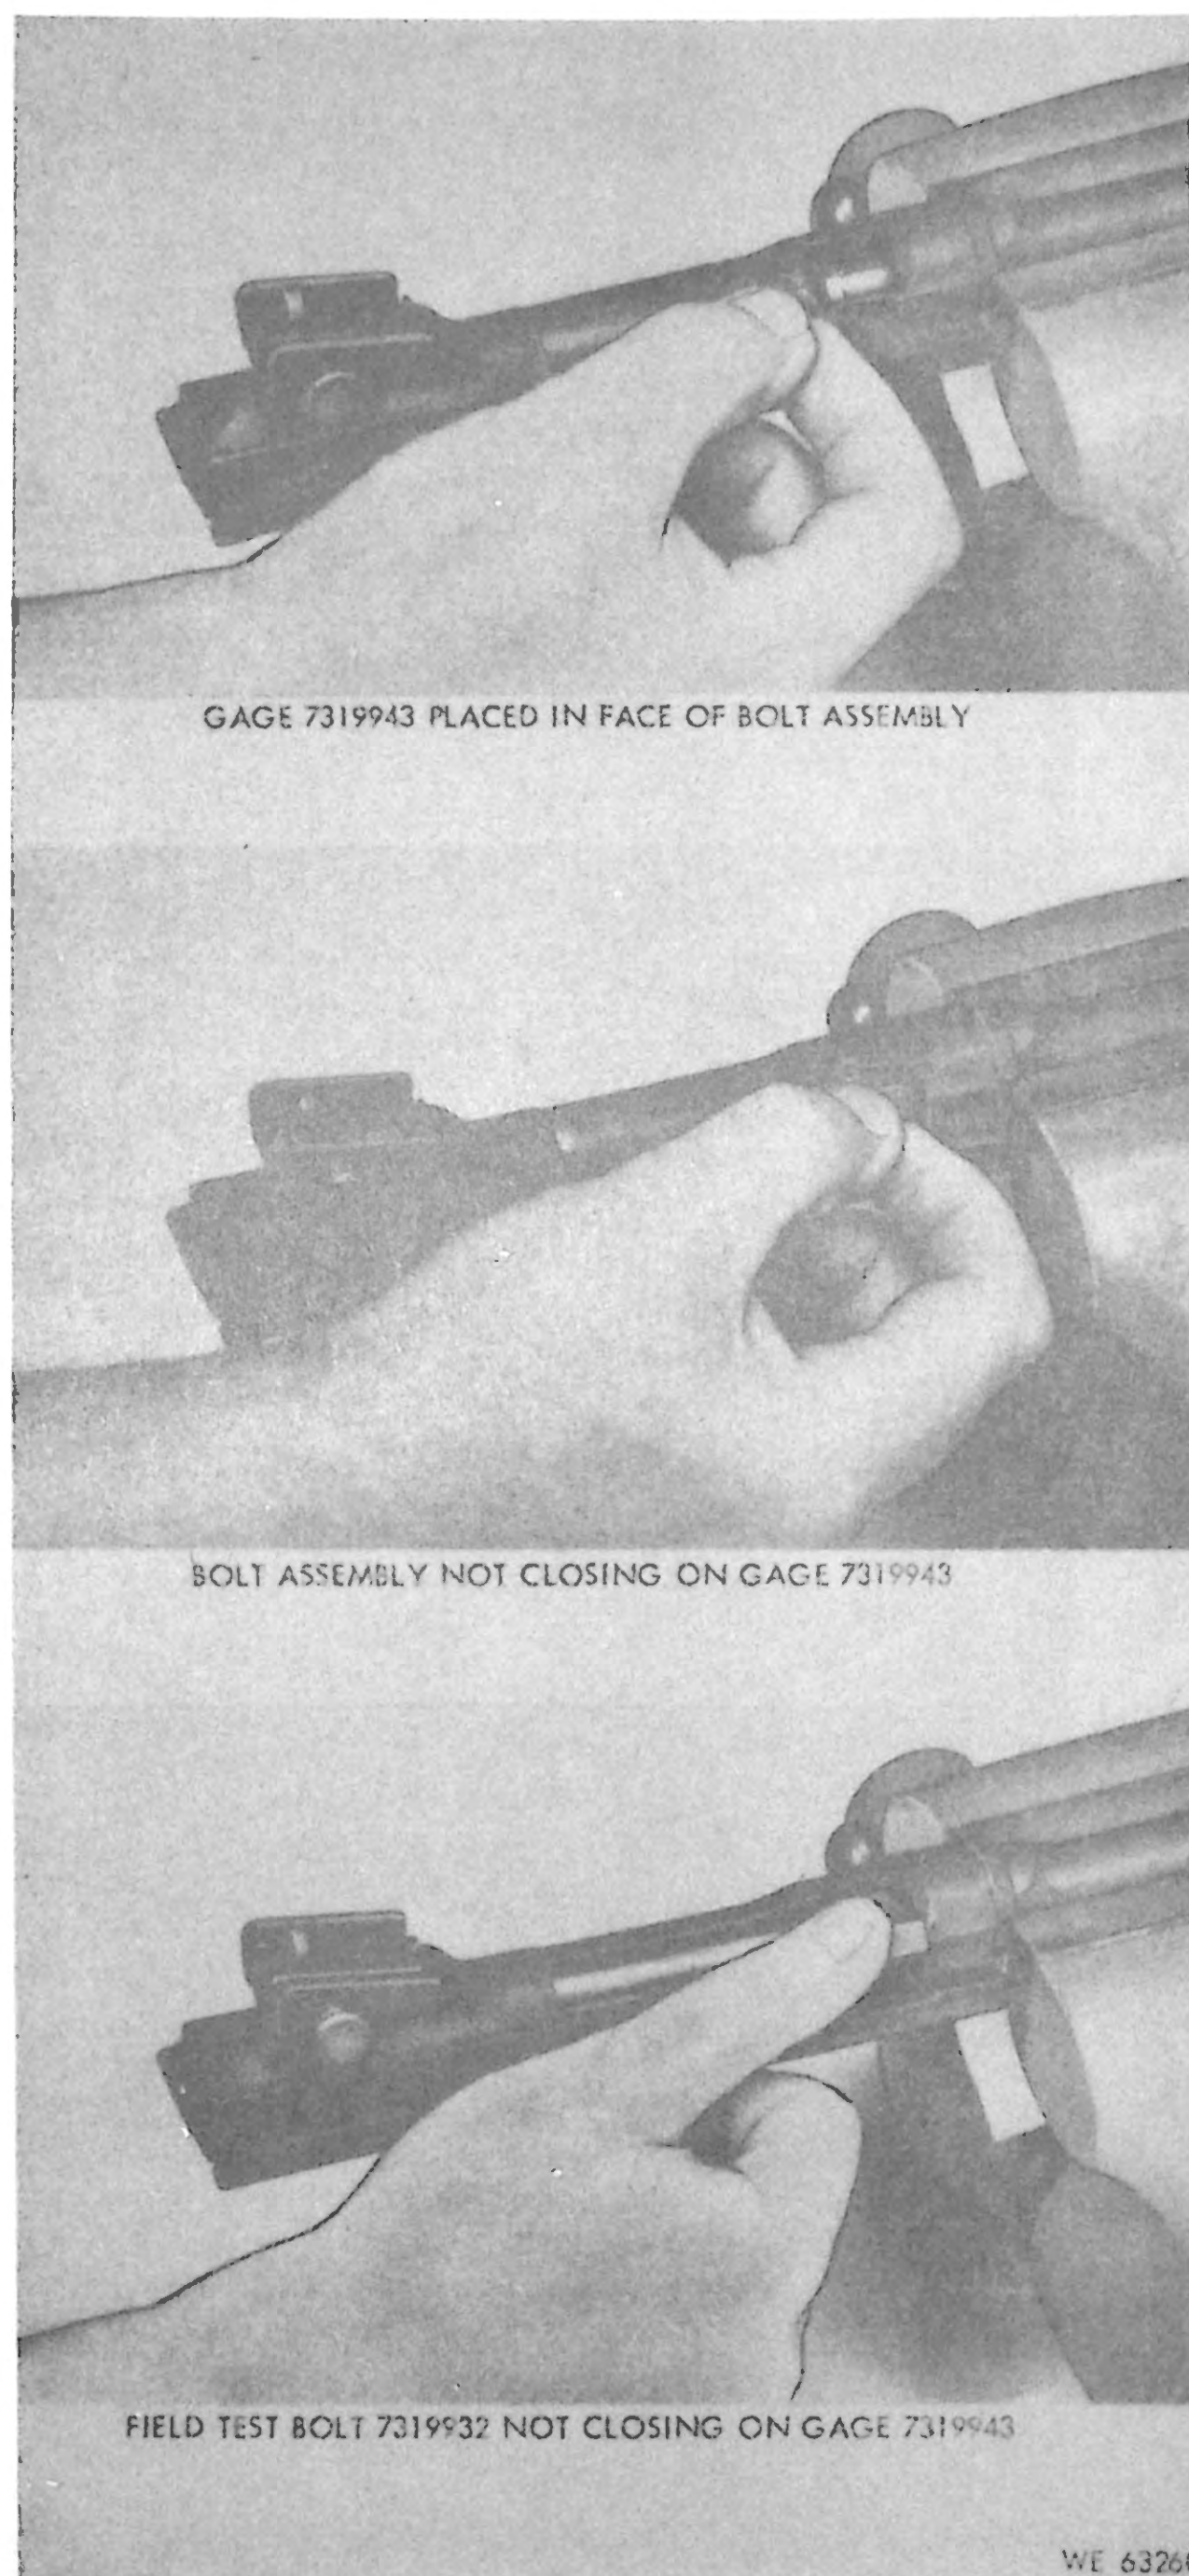

Figure 3-10. Checking headspace, using gage 7319943 and field test bolt 7319932.
a. With operating slide disengaged, use gage 7319943 to check distance between base of cartridge and face of bolt assembly (fig. 3-10). Bolt assembly should not close under *light* finger pressure on bolt locking lug.